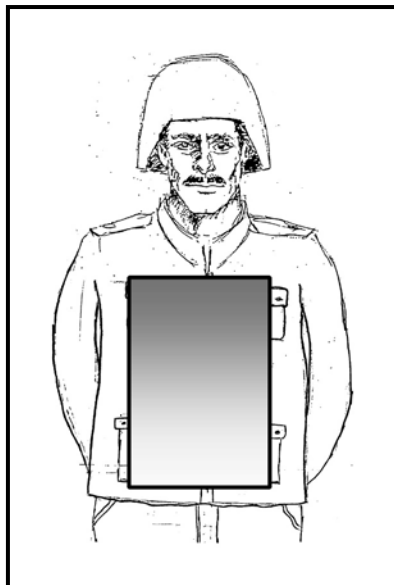

Figure 7-36. Lethal zone aim point.
(1) **Lethal Shot Placement.** The lethal zone of the target is center mass between the waist and the chest. Shots in this area maximize the hydrostatic shock of the round (Figure 7-36). Due to the nature of SRC, soldiers must continue to engage targets until they go down.